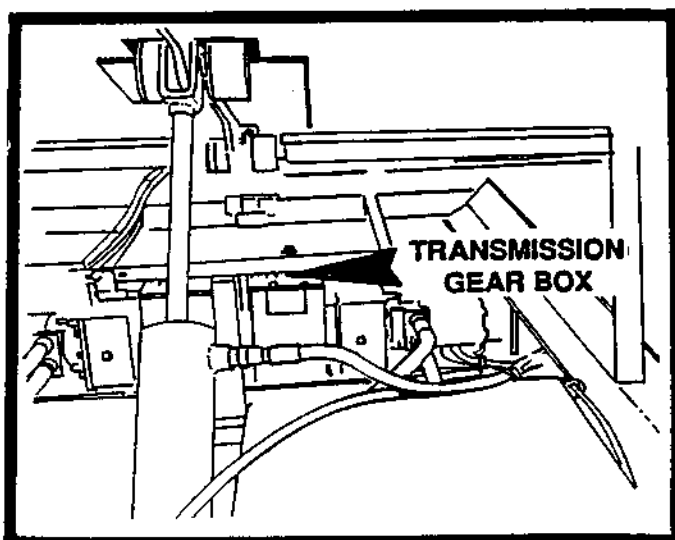

FIGURE 30
1. Check oil level in the two transmission gear boxes as shown in figure 30. If oil is required use 90 wt. gear oil. There is a dipstick provided to check oil level.